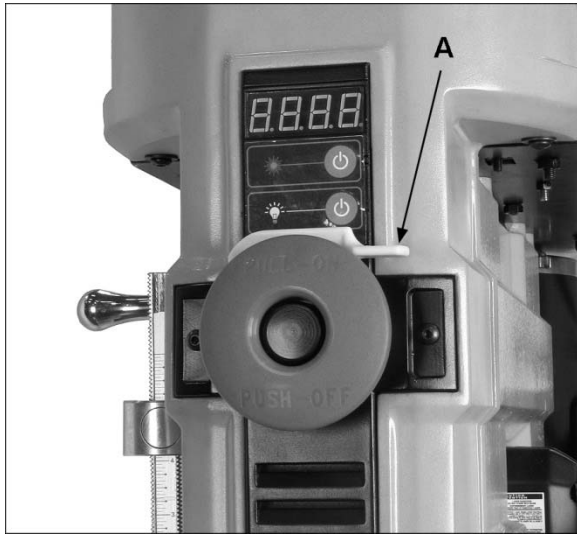

Figure 25
Referring to Figure 25:
**Safety** - The switch has a safety feature that prevents unauthorized or accidental starting of the drill press. With switch in "off" position, slide out the safety key (A, Figure 25). This piece must be re-inserted before the drill press can operate.